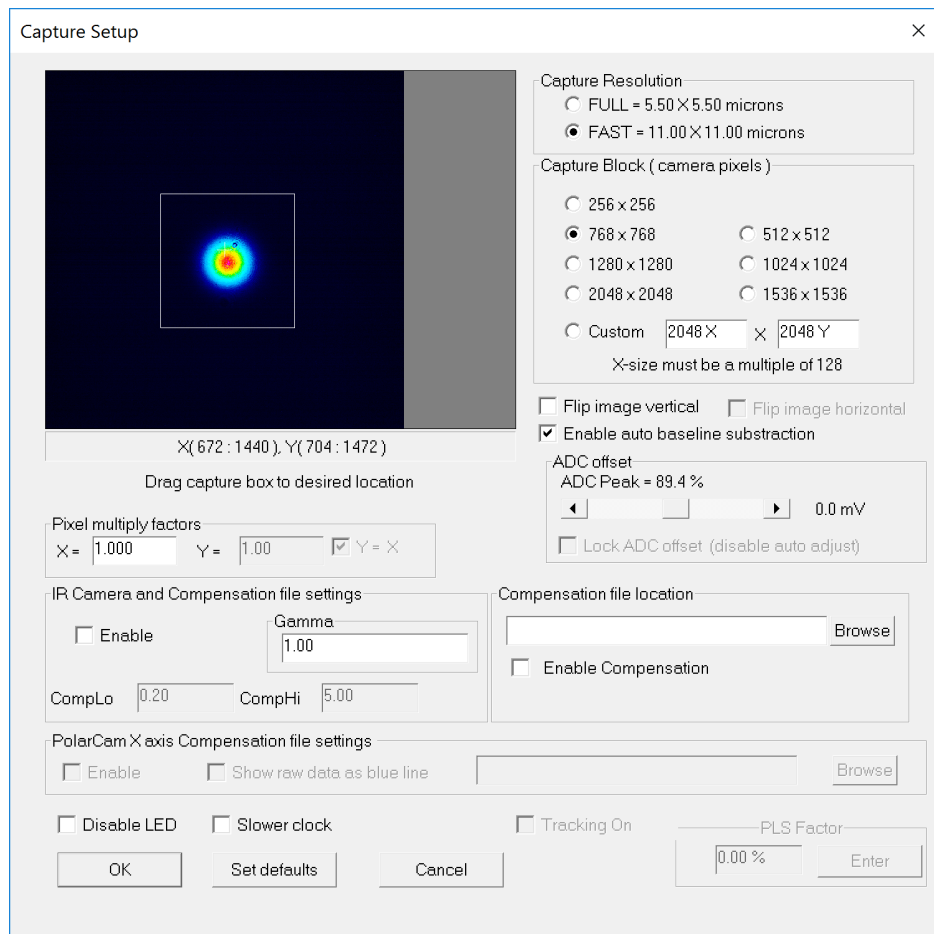

Fig. 2.1: Capture setup dialog box.
- From the DataRay application menu bar click **Setup** → **Capture Setup Dialog** or press **Alt + S**. A sample profile of your beam will be displayed (see Fig. 2.1).